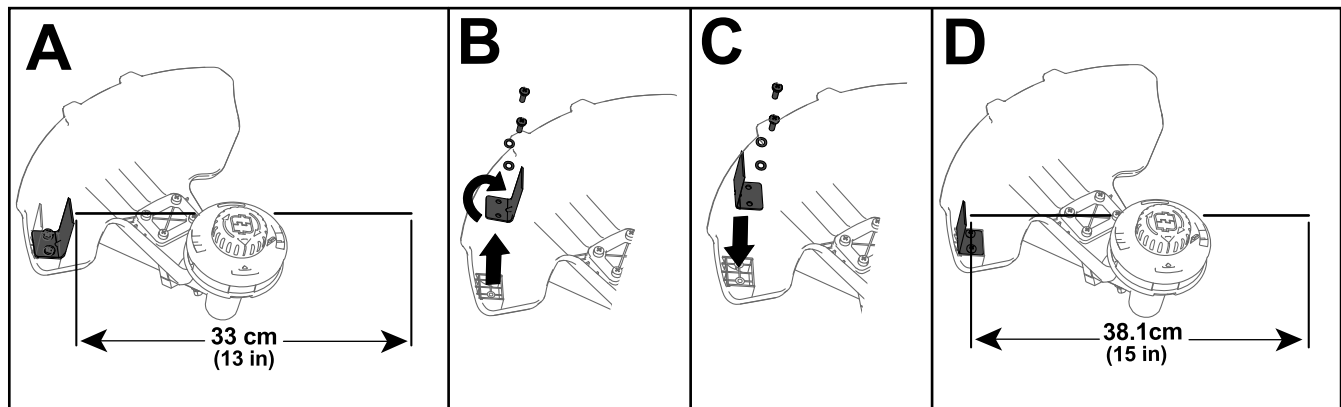

Figure 13
The trimmer comes from the factory with a cutting swath of 33 cm (13 inches) as shown in A of Figure 13. Refer to the following instructions to adjust the swath to 38.1 cm (15 inches) as shown in D of Figure 13.
1. Remove the swath blade from the bottom of the guard by removing the 2 screws holding it in place using the provided Allen wrench (B of Figure 13) and rotate the swath blade 180°.
2. Once the swath blade is rotated, install it onto the guard using the 2 screws previously removed (C of Figure 13).